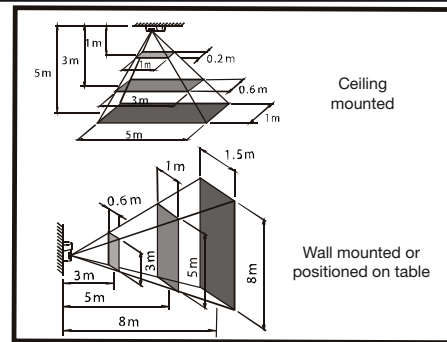

Fig. 4
1. The size of the detection area depends on the height of the sensor above the floor. Fig. 4